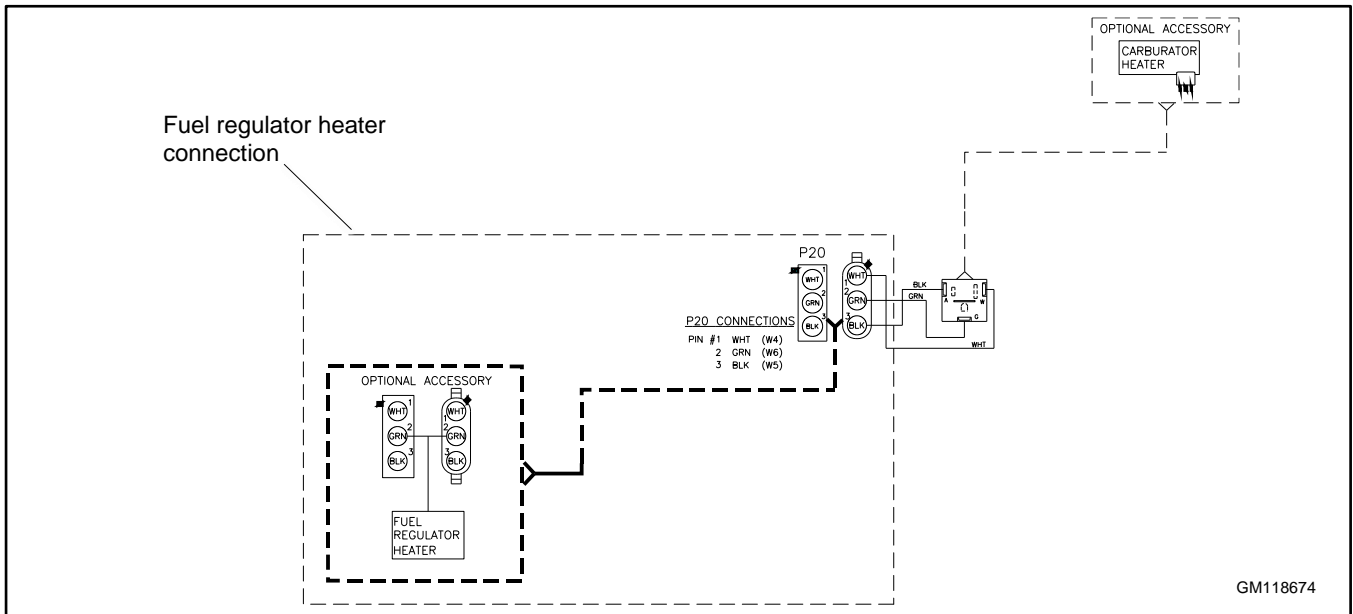

Figure 58 Fuel Regulator Heater Connection, 26RCA/L
1. Disconnect the receptacle harness from connector P20. See Figure 58.